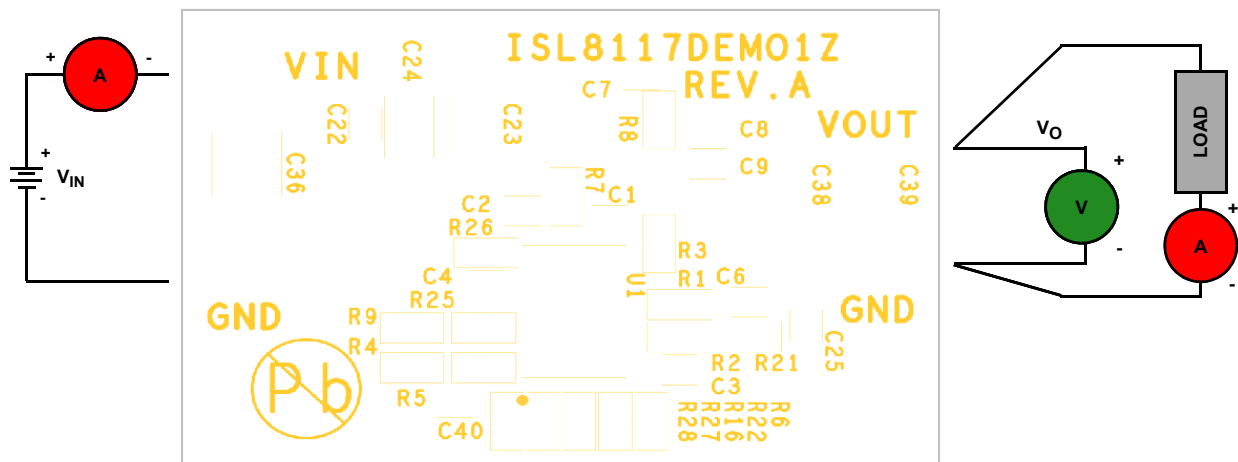

FIGURE 4. PROPER TEST SETUP
1. Ensure that the circuit is correctly connected to the supply and electronic loads prior to applying any power. Please refer to Figure 4 for proper setup.
As shown in Figure 4 on page 3, 4.5V to 60V  $V_{IN}$  is supplied to J1 (+) and J2 (-). The regulated 3.3V output on J3 (+) and J5 (-) can supply up to 6A to the load.